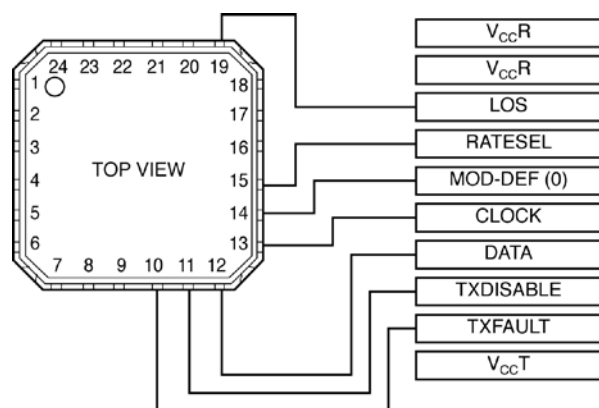

**Figure 35. Guard Traces and Kelvin Return for Remote Thermal Diode**
3. When using the MIC3001 to sense the temperature of a processor or other device which has an integral thermal diode, connect the emitter and base of the remote sensor to the MIC3001 using the guard traces and Kelvin return shown in Figure 35. The collector of the remote diode is typically inaccessible to the user on these devices.